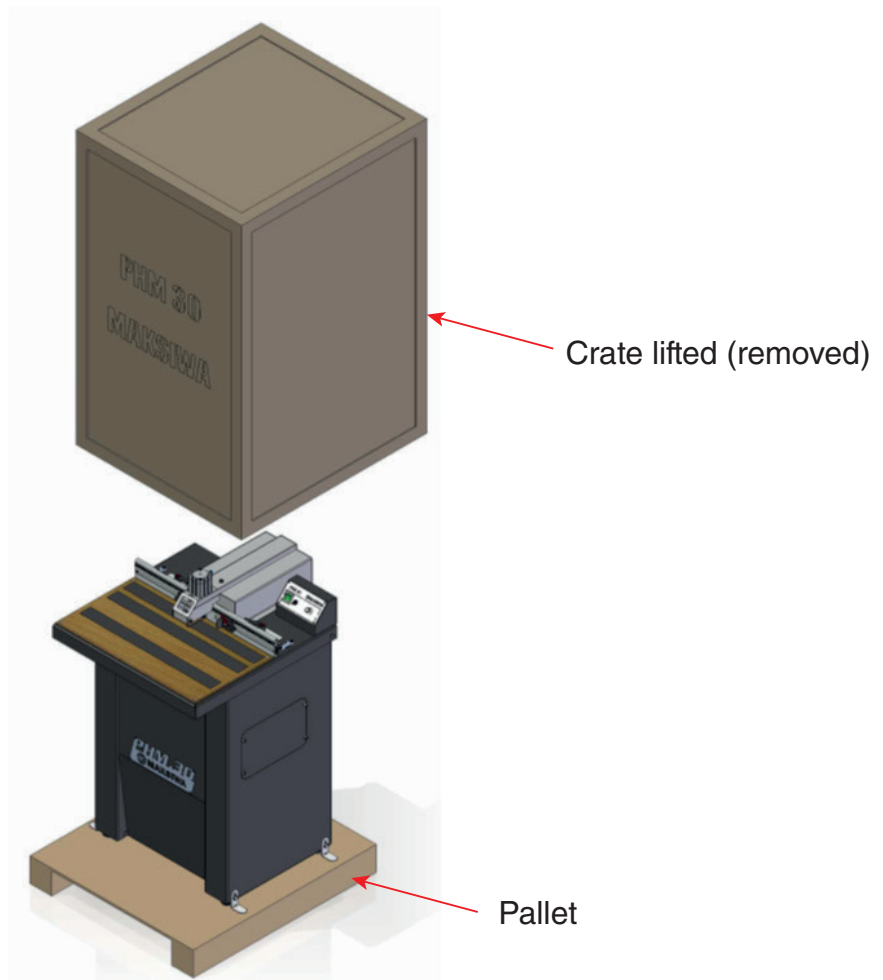

Figure 6: Uncrating
2. With the help of an assistant, lift crate from machine and pallet, being careful not to damage machine or loose parts (Fig. 6).